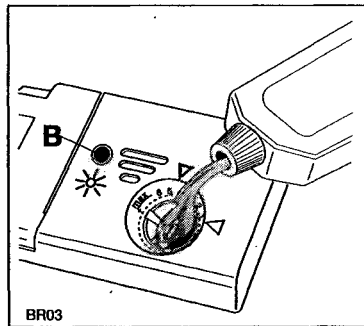

Fig. 5
You must top up again with rinse-aid when the display window on the rinse-aid dispenser (Fig. 5) shows a dark spot surrounded by a bright ring. When the rinse-aid dispenser is full, the indicator (B) on the rinse aid dispenser (Fig. 5) appears uniformly dark (after about 70-80 ml).